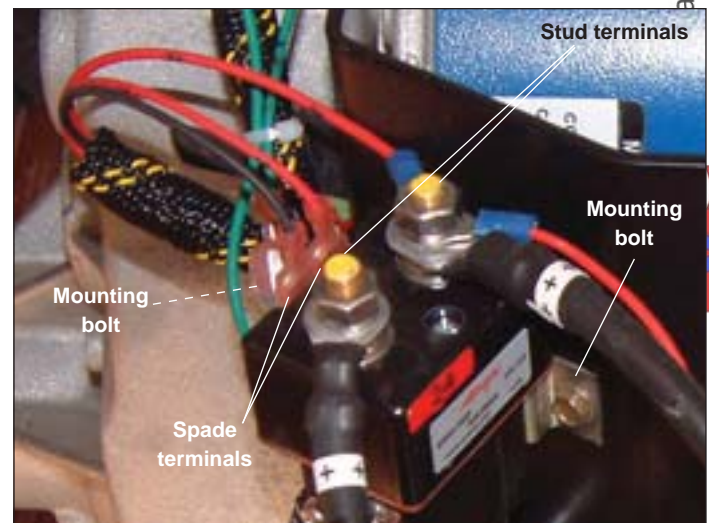

Figure 9-23. Contactor Connections
2. Remove two nuts, washers and cables from stud terminals (Figure 9-23).
4. Remove two nuts, washers, bolts and contactor (Figure 9-23).
1. Position new contactor to mounting bracket (Figure 9-23).
3. Install heavy cables to stud terminals. Install control circuit wires to spade terminals (Figure 9-23). Double check wiring diagram to ensure connections are correct.